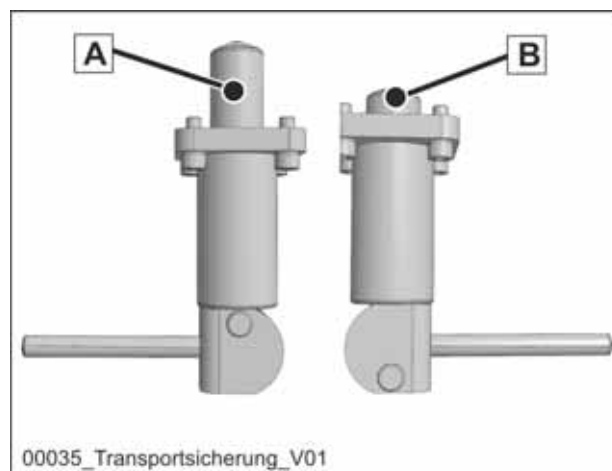

Fig. 135 Transport safety devices
- Reinsert the transport safety devices (**Fig. 135**), if provided for in the design.